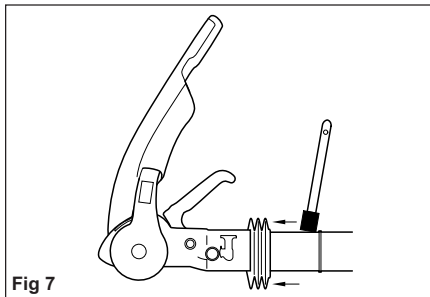

Fig 7
- b) Lubricate the drawshaft sleeve via the grease nipples. In addition, push the gaiter forward and grease (DIN 51 825 KTA 3K) the exposed part of the shaft (Fig. 7).